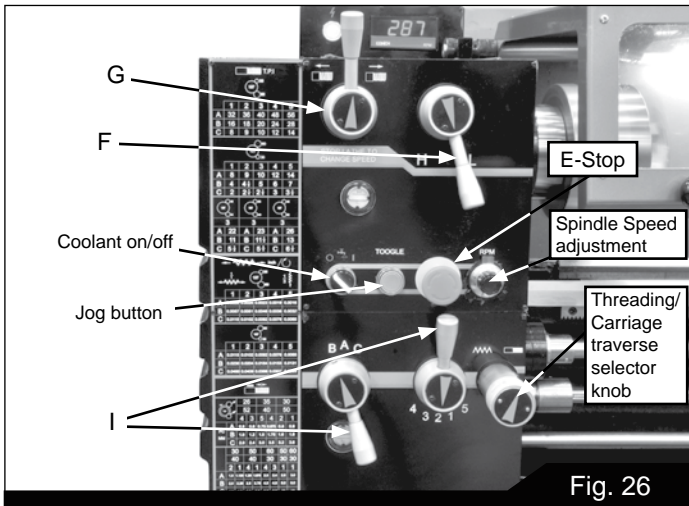

Fig. 26
To obtain various feed settings and thread pitches, the two levers (I, Figure 26) are used conjunctively. Position the two levers according to the Feed and Thread Chart on the front of the headstock.
1. Move feed direction knob (G, Figure 26) to desired direction, for right-hand or left-hand threads.
2. Set spindle (F, Figure 26) to desired speed. Use lowest speed possible when threading.
3. Select desired thread using thread pitch levers (I, Figure 26) in conjunction with the charts on the headstock.